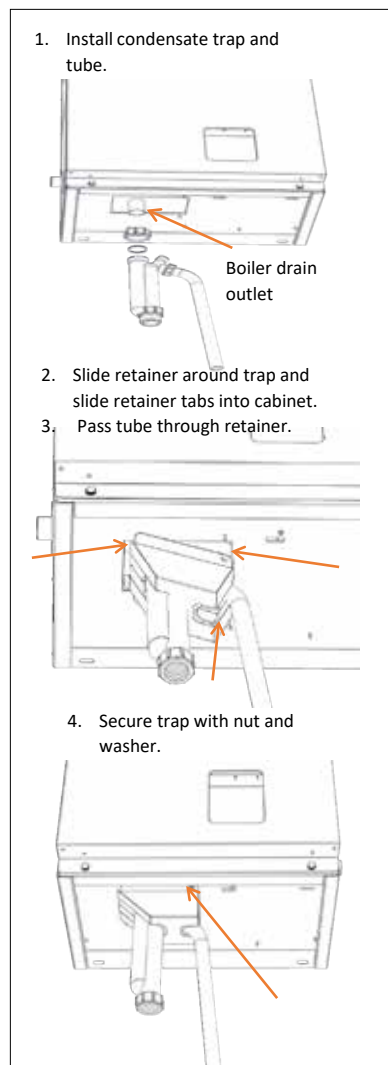

Figure 22: Condensate trap installation
A condensate trap must be installed on the drain connection at the base of the boiler as shown in *Figure 22*.
2. **Fill Trap with water**, and slide Trap Body (D) over Boiler Drain Outlet (A) - (see Figure 22).
4. Attach the Drain Hose (G), and then tighten the Drain Spout Compression Nut (E).